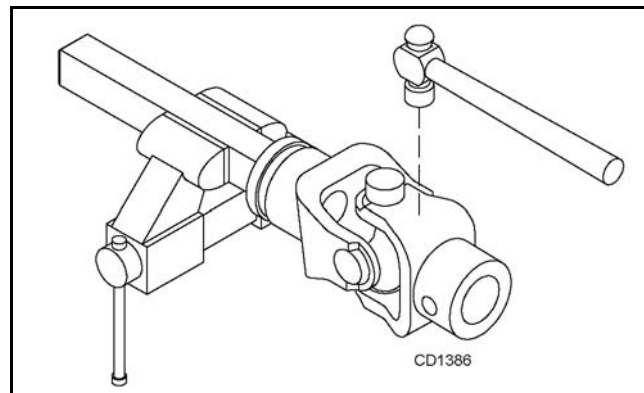

Figure 18.
2. With snap rings removed, support drive in vise, hold yoke in hand and tap on yoke to drive cup out of yoke. See Figure 18.